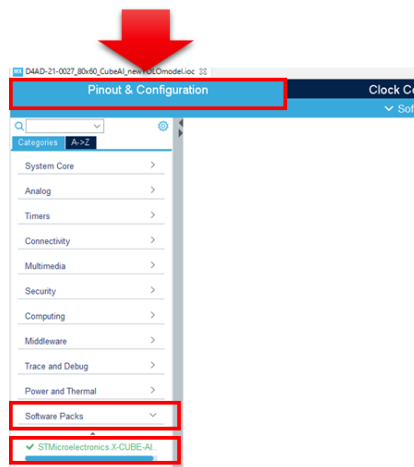

Fig. 6.12 Pinout &amp; Configuration
- Select Pinout & Configuration and click "Software Packs" – "STMicroelectronics X-Cube-AI" in the lower left, as shown in Figure 6.12.